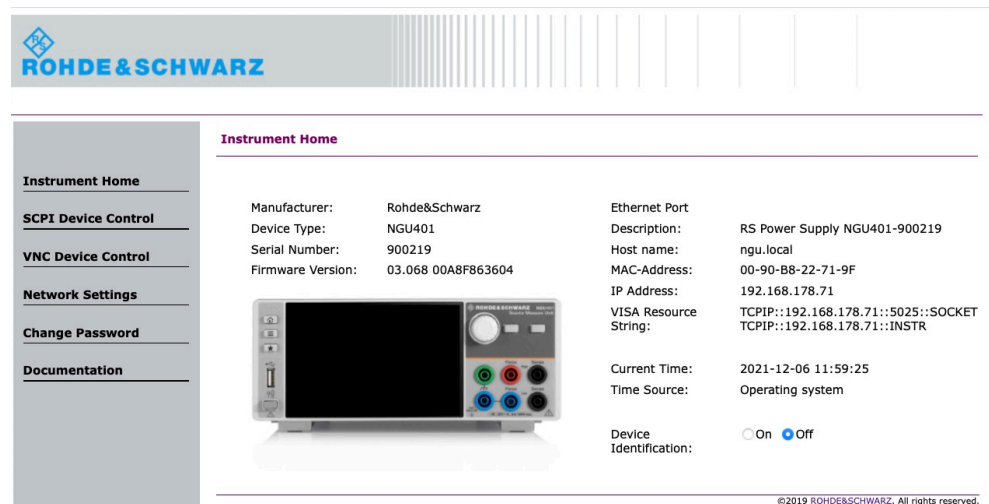

Figure 6-67: Instrument home webpage of a power supply model
5. Alternatively, connect to the instrument webpage using the IP address or hostname on the web browser URL bar. If connected successfully, the "Instrument Home" webpage is displayed. See Figure 6-67.
- "Instrument Home": Displays instrument information (e.g. model, serial number, firmware version). See Figure 6-67.